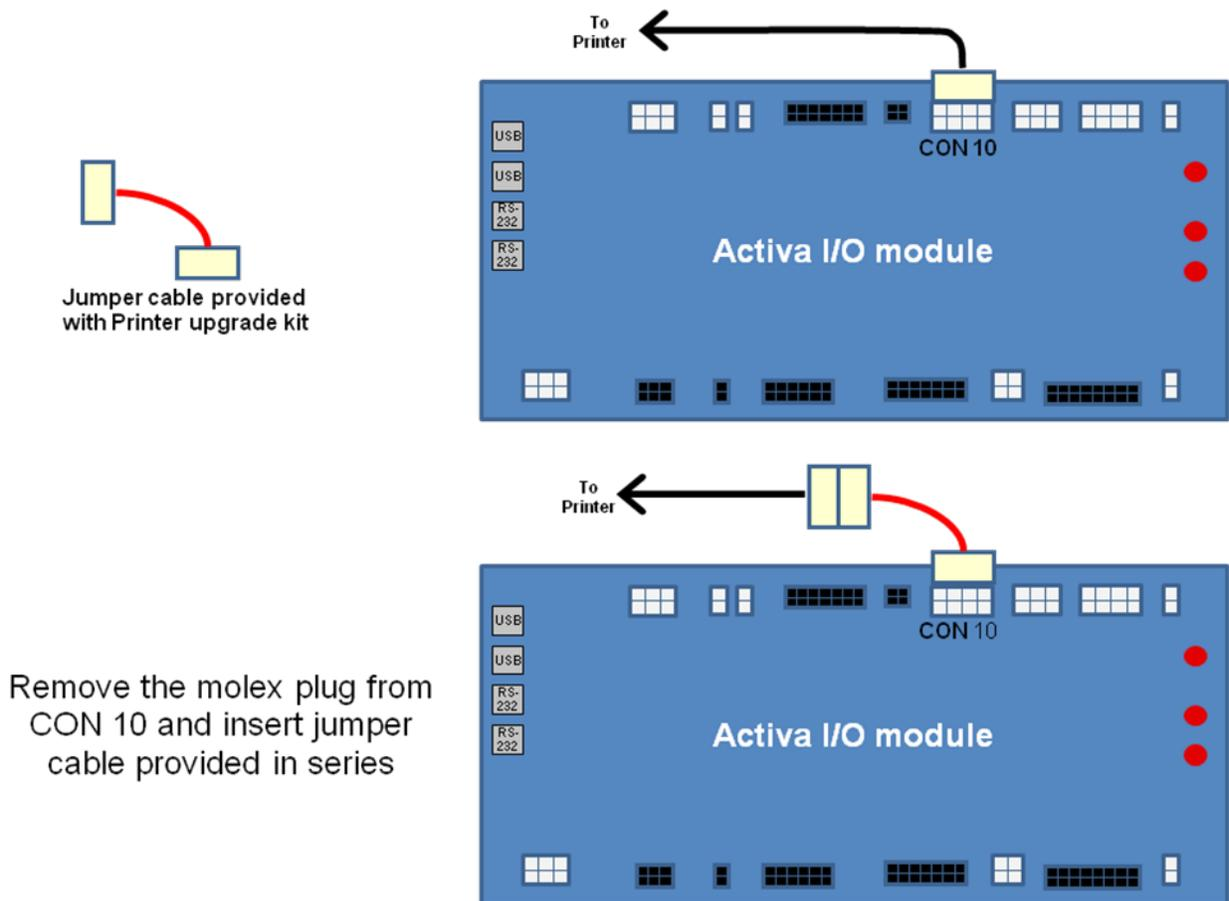
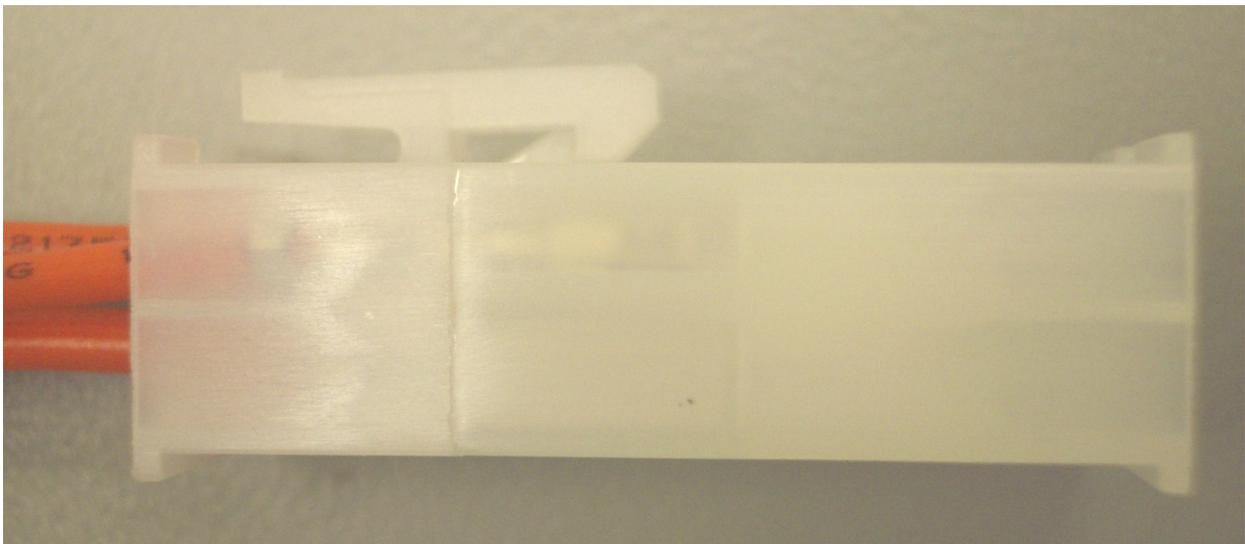
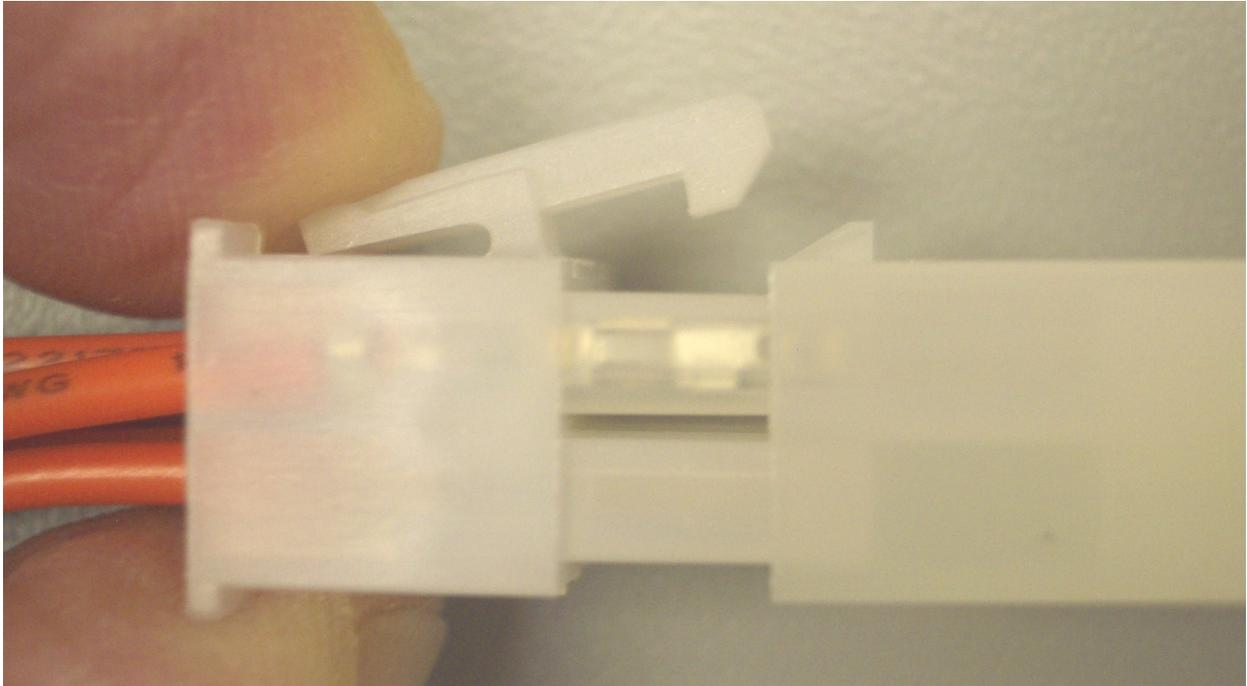

Figure 2 - Installing the I/O Jumper Cable.
Figure 5: Molex Connector in latched position.
Figure 6: Molex connector in unlatched position.
- 5) Refer to Figure 2. Open the main Aactiva door and locate the I/O module. It is attached to the upper left side of the Aactiva interior space. Connector Con10 on the I/O board is an 8 pin white Molex connector toward the top right edge of the board. It may be necessary to cut some of the nylon ty-wraps around the wire harness to improve access to the connector. Do not confuse with Con2, which is closer to the right hand edge of the board. Connector numbers are marked on the printed circuit board. Use a flashlight to view and verify the connector numbers. See Figures 5 and 6 for details on the latching mechanism of these connectors. Squeeze the plug to Con10 as shown in Figure 6, release the latch and holding the latch open, gently wiggle and remove the plug from Con10. Pull only on the nylon body of the connector, not the attached wires, or the wires may be damaged and become loose and intermittent. *You don't want this to happen.* Insert the jumper cable provided between the plug and receptacle of Con10 and make sure the connectors are inserted deeply into each other so that they latch into place.